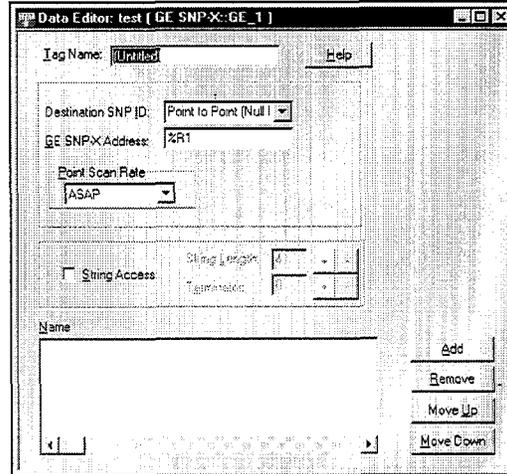

Figure 5. GE SNP-X Data Point Configuration Form
2. Double-click on the driver name for which you want to configure tag names. The GE SNP-X data point configuration form opens, as shown in Figure 5.